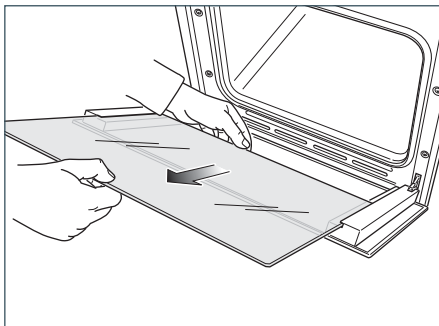

Fig.81e
- Gently pull out the inner pane of glass (Fig. 81e).